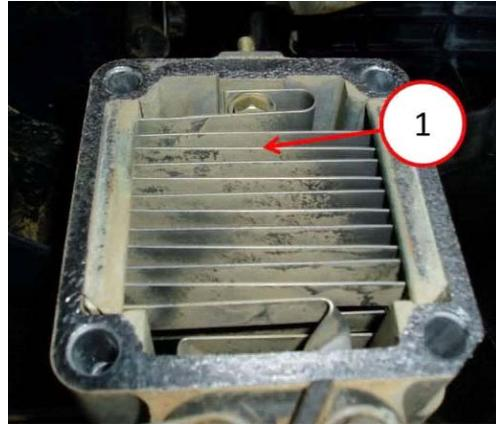

Figure 6: Heater Grid
7. Inspect the grid heater and air intake manifold system. When dirt is introduced into the intake, it tends to collect in the far ends on the inside of the intake manifold. This can be hard to see, but the dirt will "build up" in the corners. Look for evidence using a mirror and flashlight or bore-scope inside the intake towards the ends. Inspect the grid heater for dust/dirt accumulation (Figure 6).